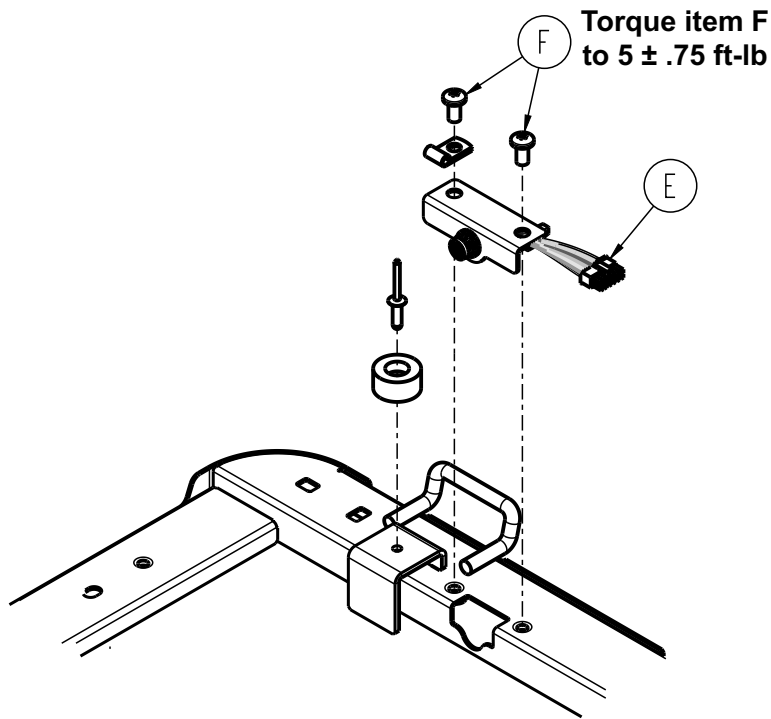

Figure 40 – Removing the pendant port/bracket screws
16. Using a T30 Torx driver, remove the two screws (F) that secure the pendant port/bracket (E) to the Fowler weldment and discard (Figure 40).